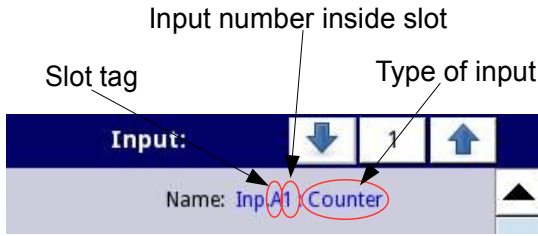

Fig. 7.81. Description of **Name** parameter in **Built-in inputs** menu
A common parameter for all **Built-in inputs** is **Name** – each input has its own unique name and it can not be changed – for description of this parameter see **Fig. 7.81**.
- **Name** - each built-in input already has a name given by the device and the user cannot change it, for the description of the **Name** parameter see **Fig. 7.81**,
- **Name** – each built-in input already has a name given by the device and the user cannot change it, for the description of the **Name** parameter see **Fig. 7.81**,
- **Name** – each built-in input already has a name given by the device and the user cannot change it, for the description of the **Name** parameter see **Fig. 7.81**.